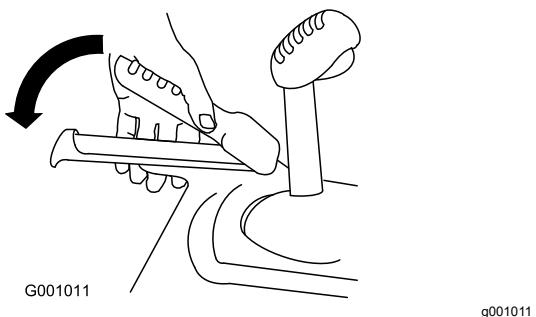

Figure 28
2. Engage the traction lever and hold it in place (Figure 28).